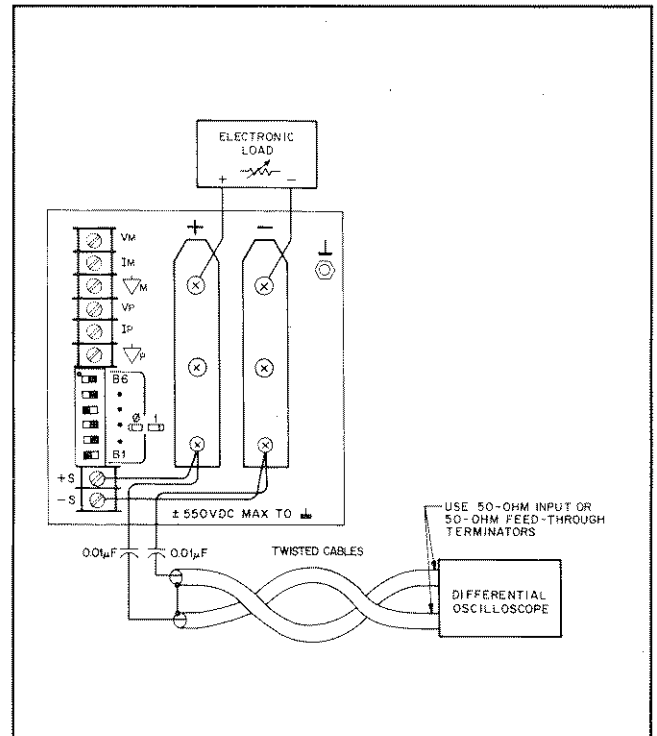

Figure 5-4. Peak-to-Peak Measurement Test Setup, CV PARD Test
Test Points: See Figure 5-4
- a. Connect the test equipment as shown in Figure 5-4. Operate the electronic load in constant resistance mode (Amps/Volt) and set resistance to maximum.